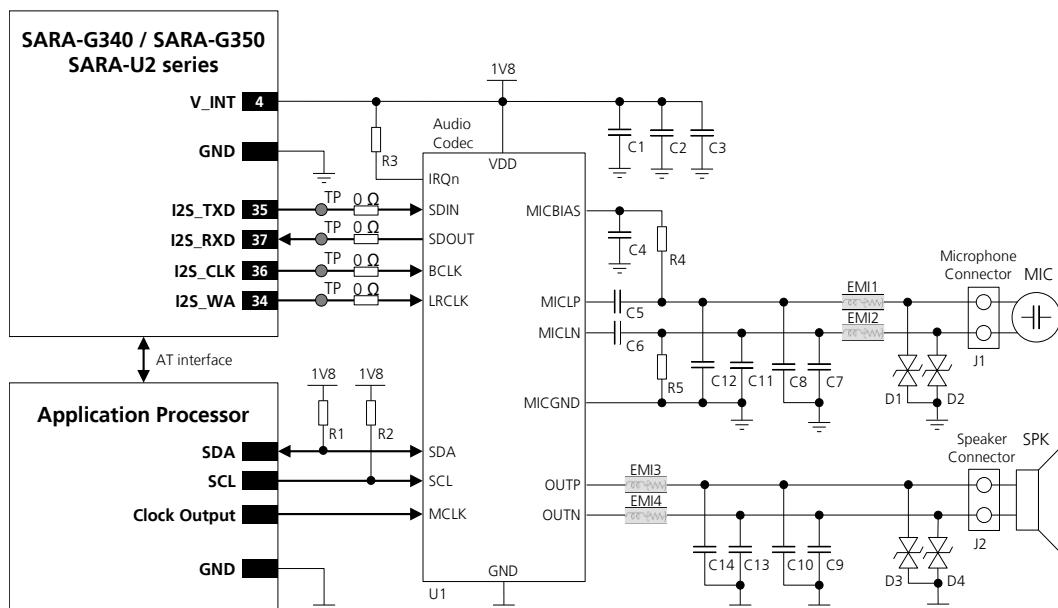

Figure 87: Application circuit for connecting SARA-G3 / SARA-U2 modules with an external audio codec
Figure 87 describes an application circuit example for connecting the I2S digital audio interface of SARA-G340, SARA-G350 and SARA-U2 modules to an external audio voice codec, using the same parts listed in Table 57.
- Additional components are provided for EMC and ESD immunity conformity: a 10 nF bypass capacitor and a series chip ferrite bead noise/EMI suppression filter provided on each microphone line input and speaker line output of the external codec as described in Figure 87 and Table 57. The necessity of these or other additional parts for EMC improvement may depend on the specific application board design.